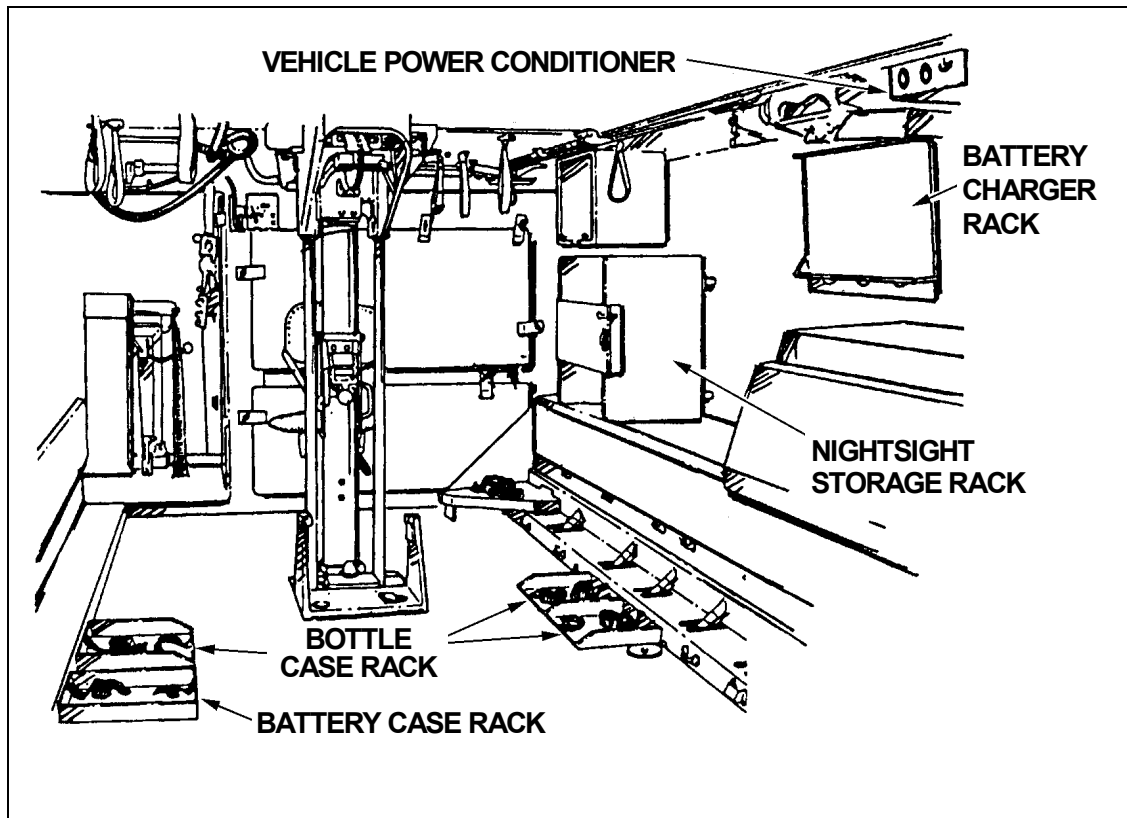

Figure E-8. Vehicle storage kit.
c. **Vehicle Storage Kit.** Each M113 APC assigned to a mechanized infantry squad has one of these kits installed (Figure E-8, page E-5). It consists of the following nightsight support equipment:
(1) A nightsight storage rack, located just below the daysight storage case.
(2) A vehicle power conditioner (VPC) to “step down” the power of the 24-volt battery to the required level.
(3) A battery charger rack and a PP-7382/TAS battery charger also operate from the APC power source.
(4) Three storage racks for coolant cartridge containers and one storage rack for a battery container are located under the personnel seats.